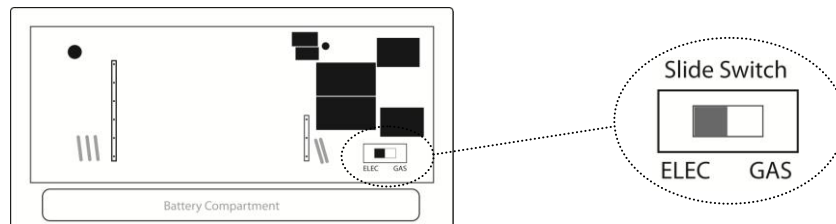

Figure 5
9. Set the **FAN OPTION** switch on the back of the front cover to the proper position. (See Figure 5 below) If your system **REQUIRES** the thermostat to turn on the fan during a call for emergency heat, such as electric strip heat, place the fan option switch in the **ELEC** position. If your system does **NOT** require the thermostat to energize the fan during a call for emergency heat, such as a fossil fuel (gas, oil, etc.), forced air, or hydraulic heating system, place the fan option switch in the **GAS** position. If you are unsure of your application, contact a qualified HVAC contractor.